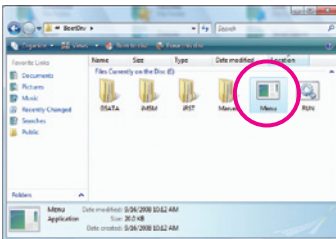
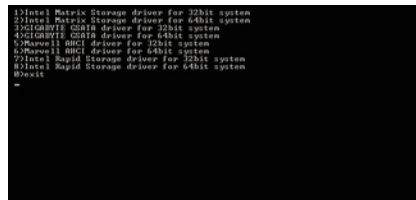

Figure 2
Figure 3
- 2: From your optical drive folder, double click the **Menu.exe** file in the **BootDrv** folder (Figure 2). A Command Prompt window will open similar to that in Figure 3.
- 3: Insert the blank formatted disk. Select the controller driver by pressing the corresponding letter from the menu. For example, from the menu in Figure 3,